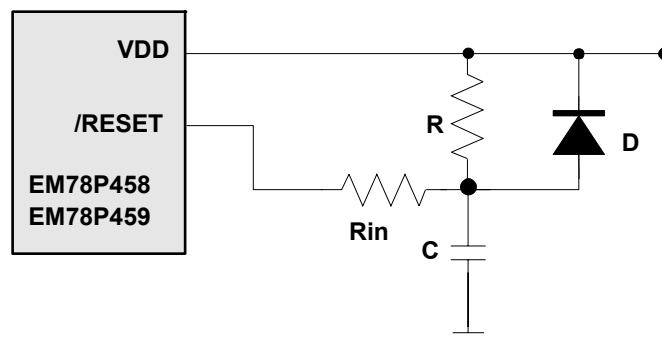

Fig. 22 External Power on Reset Circuit
The circuit shown in Fig. 22 implements an external RC to produce a reset pulse. The pulse width (time constant) should be kept long enough to allow Vdd to reach minimum operation voltage. This circuit is used when the power supply has a slow rise time. Because the current leakage from the /RESET pin is about  $\pm 5\mu$ A, it is recommended that R should not be great than 40 K. In this way, the voltage at Pin /RESET is held below 0.2V. The diode (D) acts as a short circuit at power-down. The capacitor, C, is discharged rapidly and fully. Rin, the current-limited resistor, prevents high current discharge or ESD (electrostatic discharge) from flowing into Pin /RESET.